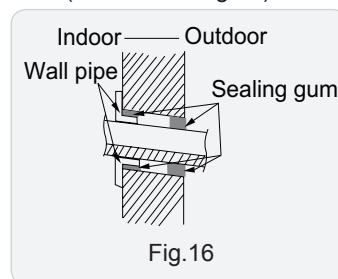

Fig.16
- Fix the wall pipe. (As show in Fig.16)